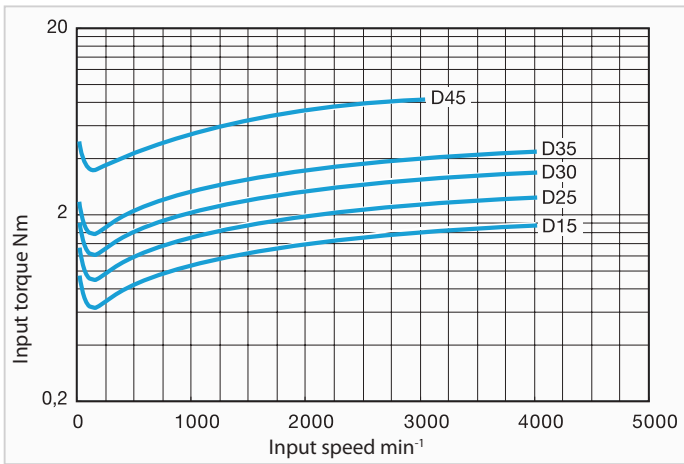

Fig. D1 Input side no-load running torque
1. Fig. D1 shows the average no-load running torque after gearbox is run in. (not factory-new condition)